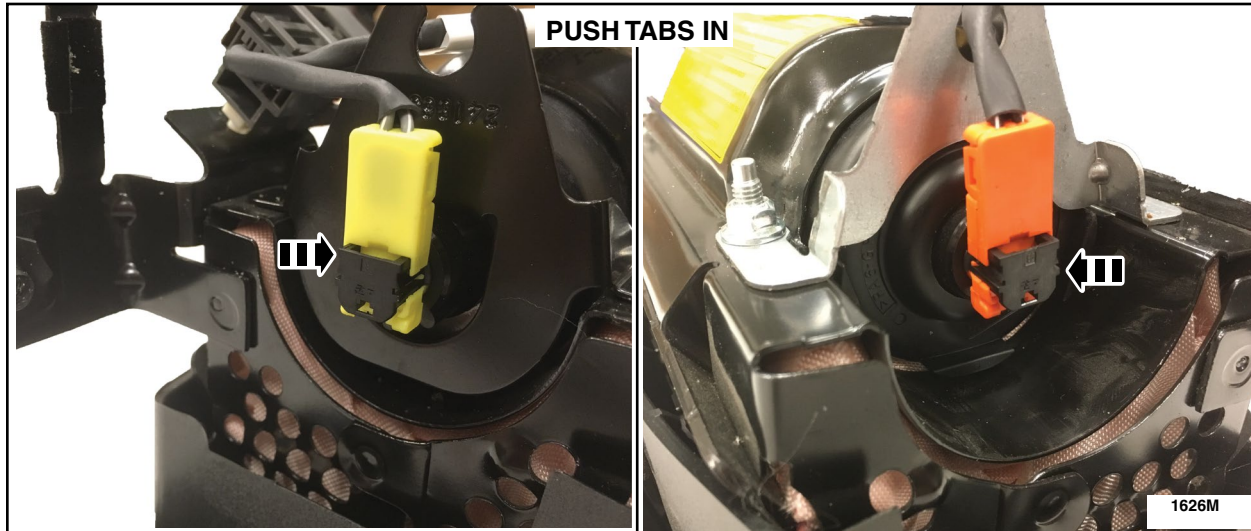

FIGURE 12
14. Insert black the inflator wiring harness connector tabs. See Figure 12.